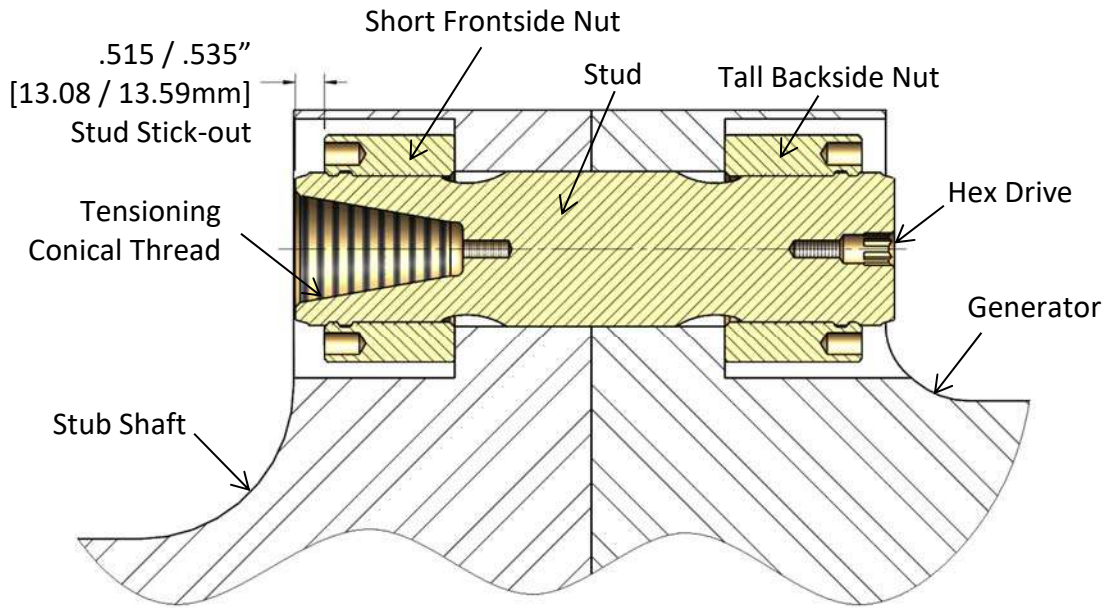

Figure 6A – Cross-section View of A650 Stub Shaft to Generator
4. Slide the stud and nut into the flange as shown in Figure 6A or 6B.